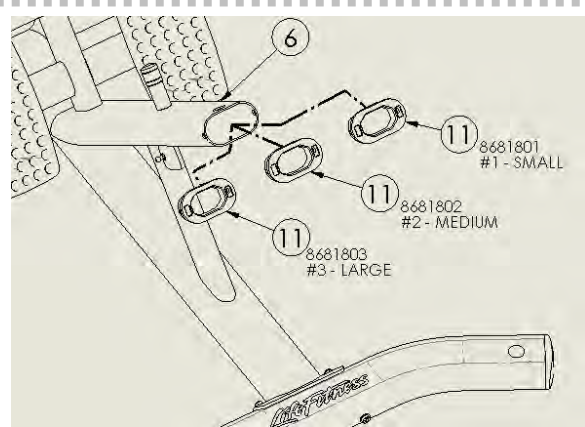

Fig. 3
fit may require slight tapping in with a rubber mallet. Do not apply excessive force. The purpose of this is to minimize the amount of movement allowed between the bushing and the tube of the CENTER FRAME (6) as seen in figure 3.